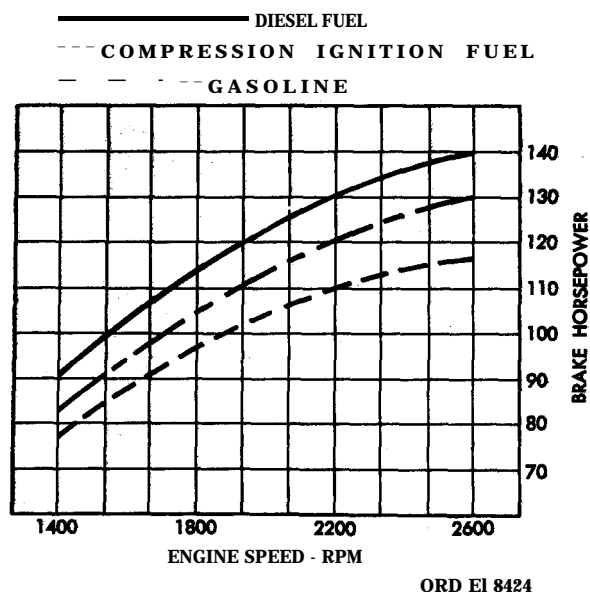

FIGURE 513. TYPICAL ENGINE PERFORMANCE CURVE.
- (1) When any of the original bearings or piston rings have been replaced and the cylinder liners re honed, during rebuild, use the long run-in schedule, Table VI.
- (2) When original bearings and rings were re-installed during rebuild, use the short run-in schedule, Table VII.
**f. Performance Curve.** Figure 513 gives typical performance curves for three types of fuel.